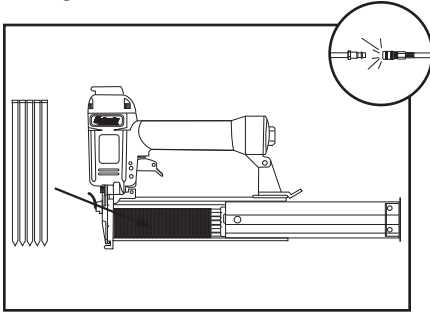

Figure 6. Loading nails into brad magazine.
3. Insert a strip of nails, pointed-end down, into the magazine as shown in **Figure 6**.